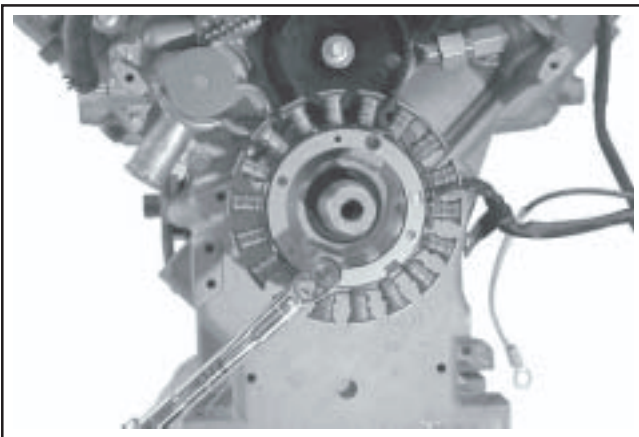

Figure 11-63. Torquing Stator Screws.
1. Place a small amount of **pipe sealant with Teflon®** (Loctite® 59241 or equivalent) into the holes for the two stator mounting screws. Position the stator assembly onto the mounting studs so the leads are at the bottom, and directed out toward the #1 side, in the 3 o'clock position. Align the mounting holes and install the two hex. flange screws. Torque each screw to **6.2 N·m (55 in. lb.)**. See Figure 11-63.